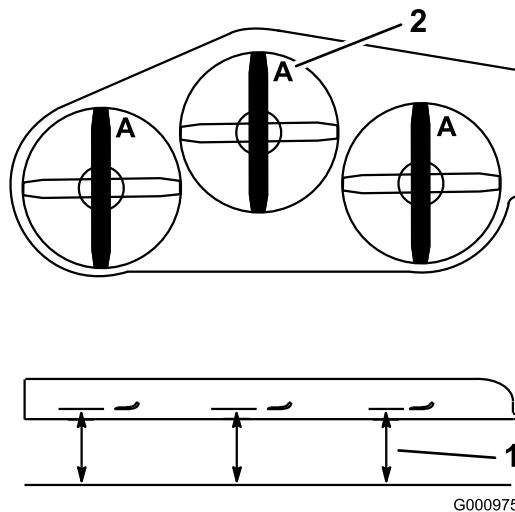

Figure 85
3. Rotate the blades until the ends face forward and backward. Measure from a level surface to the cutting edge, position A, of the blades (Figure 85). Note this dimension.